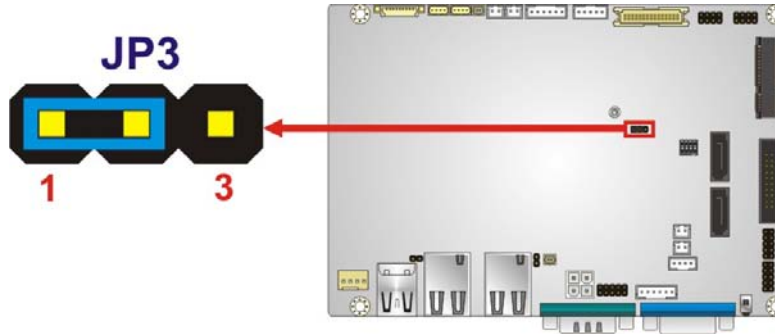

Figure 4-11: LVDS Voltage Selection Jumper Location
- Jumper Location: See **Figure 4-11**